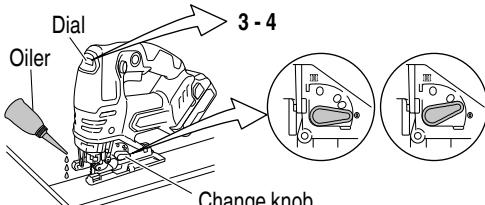

Fig. 29
4. Cutting metallic materials (Fig. 29)